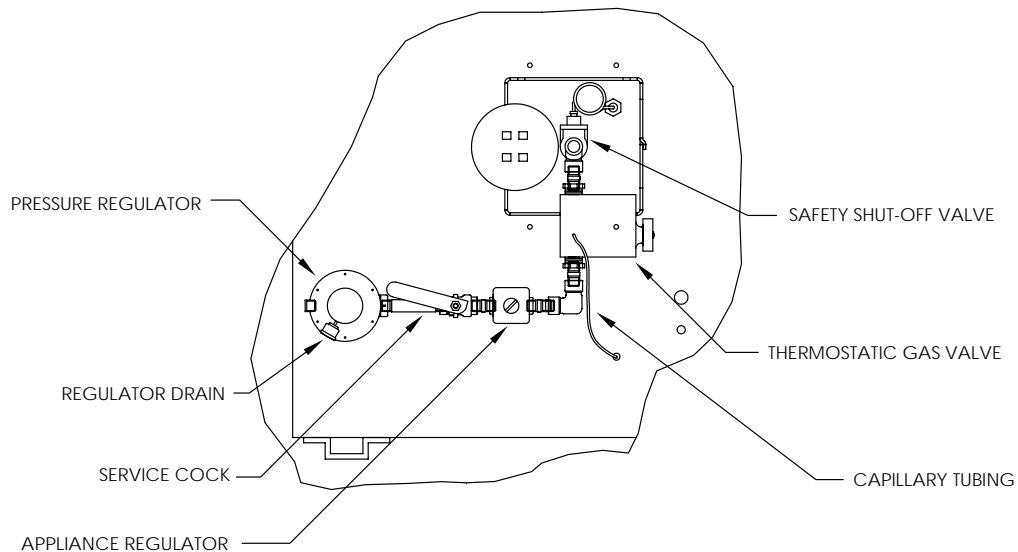

Figure 45 Thermostat/Regulator Assembly Installed
- 4) Screw threaded end of Assembly into $\frac{1}{4}$ " female fitting located on the installed Catalytic Heater, by turning entire Assembly clockwise until tight (see Figure 45).